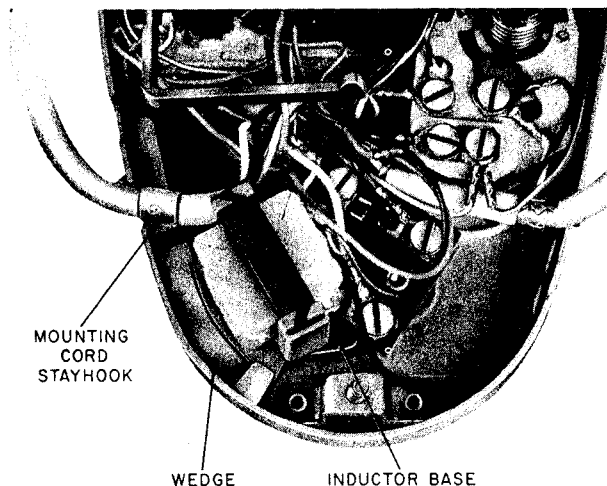

Fig. 9 — Top View, Location of Wedge
- (4) Insert wedge in position (Fig. 9).
- (5) Connect inductor between terminals B of network and 3 of terminal board.
- (6) Replace mounting cord stay hook, dial, and housing.